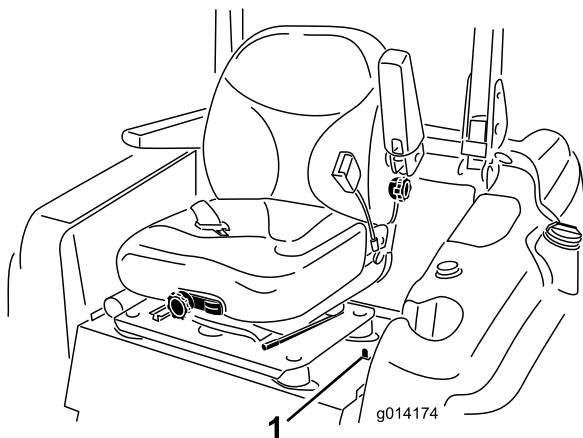

Figure 20
1. Move the seat latch, located on the left side of the seat, rearward to unlatch the seat and pull forward on the top of the seat (Figure 20).